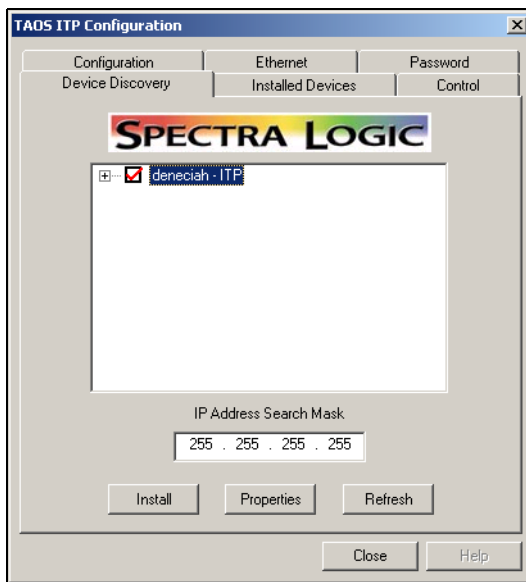

Figure 7-11 *Device Discovery on the TAOS ITP Configuration control panel, with the device selected.*
- click on the square box next to the TAOS enabled device to check-mark each TAOS enabled device you want installed (Figure 7-11).